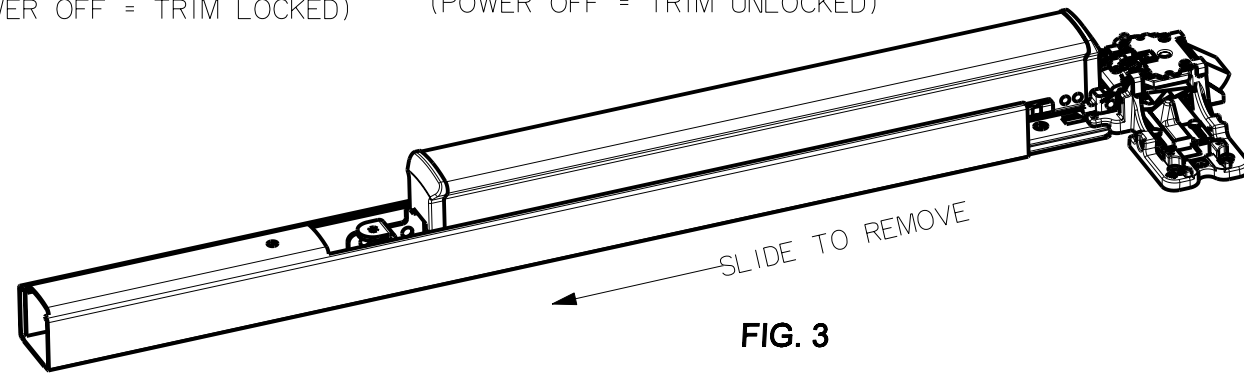

FIG. 3
- 1 - Remove the 2 channel screws (Fig. 1) Loosen set screw (Fig. 2) and slide device channel away from chassis (Fig.3)